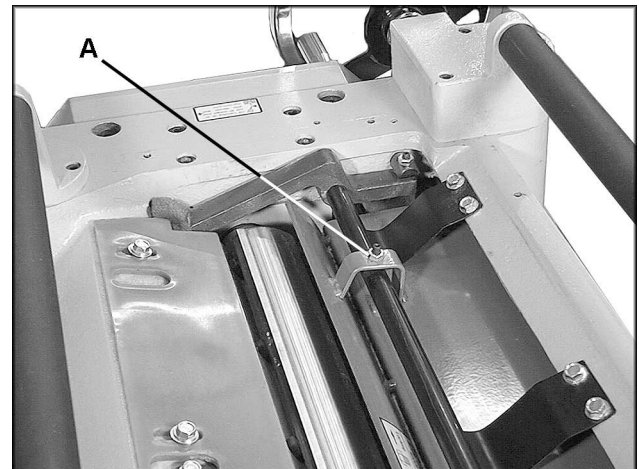

Fig. 27
2. Loosen the lock nuts (A, Fig. 27) at both ends of the chipbreaker, and turn the set screws to raise or lower the chipbreaker as needed. The set screws should be turned the same amount.
3. When the chipbreaker contacts the gauge block, tighten both lock nuts (A, Fig. 27).